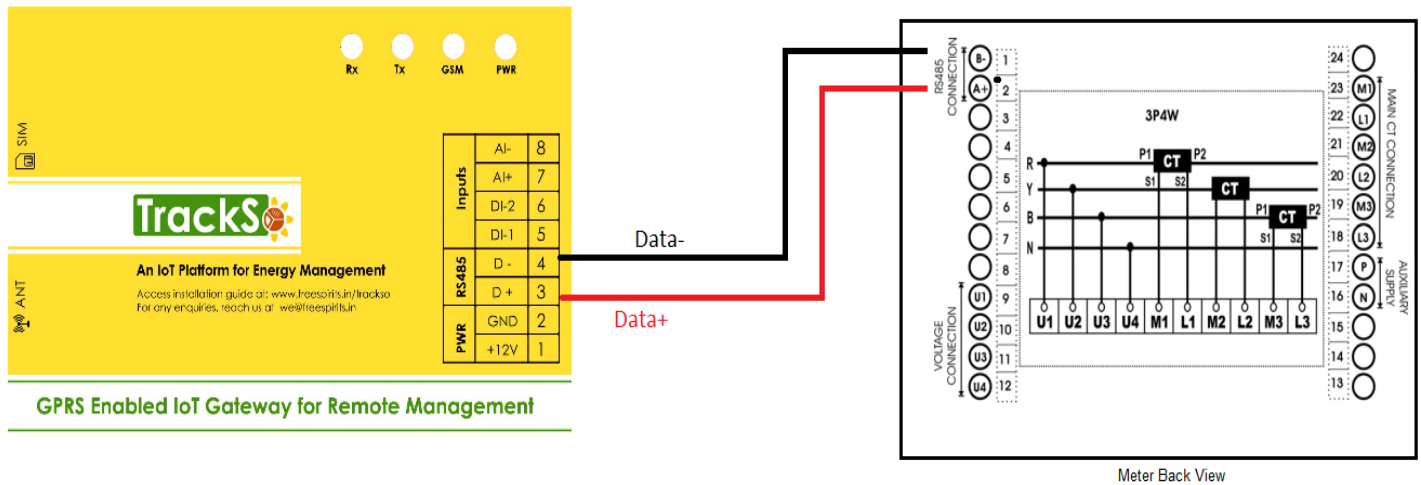

Figure T1 – Rear view of Trinity NF29 Meter
1. Please unscrew the RS485 terminal as shown in Figure T1.